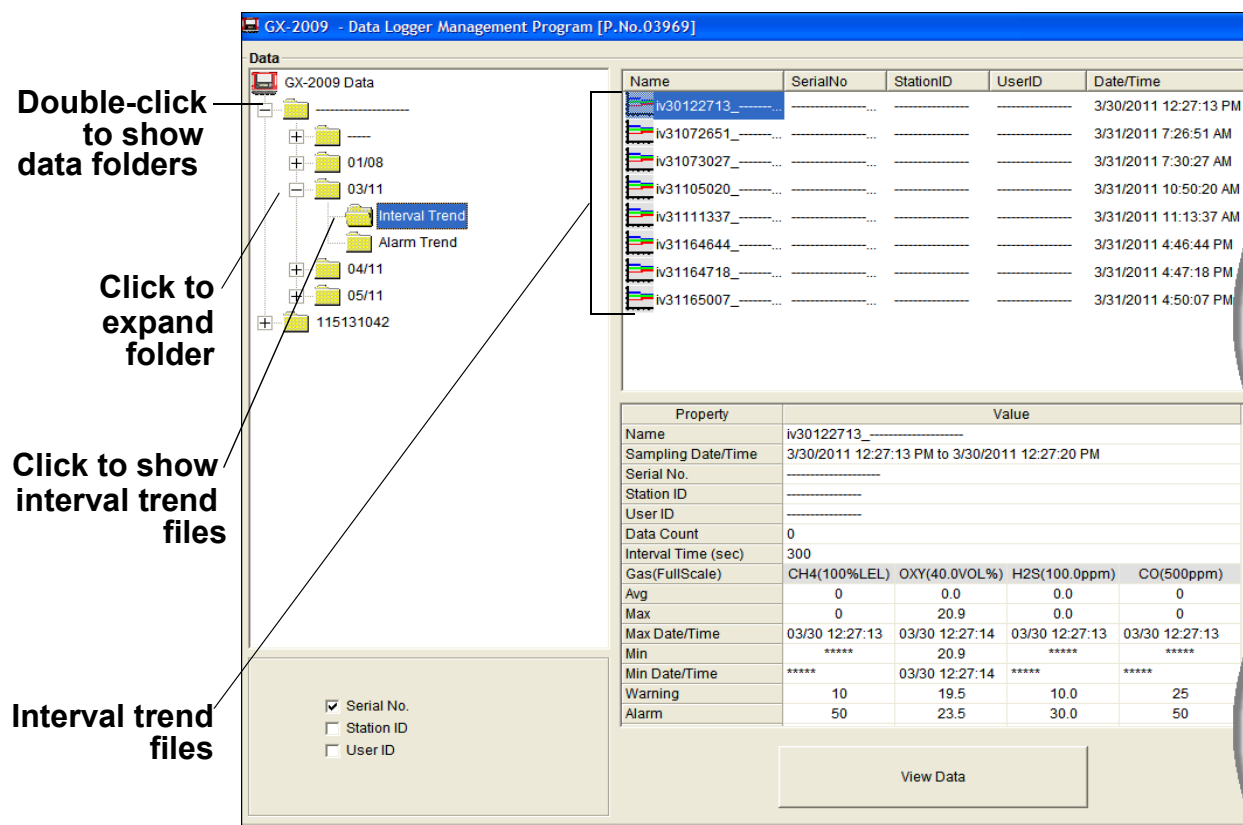

Figure 32: Data Window - Selecting Interval Trend Data Files
- If you click the **Summary** button, the Data Window will split into two frames, one above the other, with the data table in the lower frame and the summary information shown in the upper frame. The summary information is the same as the one shown in the lower right frame in Figure 32. To return to the one frame format, click **Summary** again.
NOTE: The data count shown when you have selected an interval trend data file, as in Figure 32 above, can be more than five if you have events, such as the GX-2009 going into and out of alarm, but you may not have five scheduled data points.